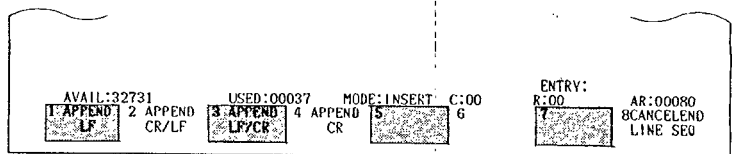

Fig. 7.109
5. When the label conforming to the printer specification in Fig. 7.109 is depressed, the line feed (LF) code for advancing the line at the end of each line (after printing the set printing width) is attached to the following keys.